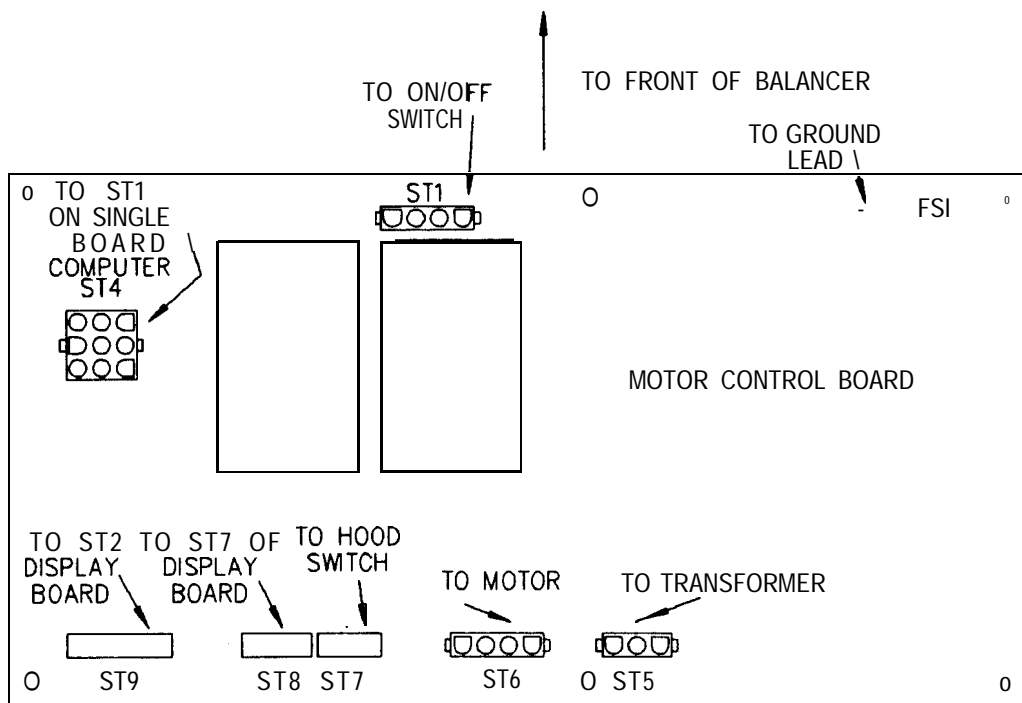

Figure 1 MOTOR CONTROL BOARD
15. Install the new motor control board in the balancer. The ground Fast On should be toward the front of the balancer. See figure 1.
21. Install the other harnesses on the motor control board in their respective places. See figure 1.